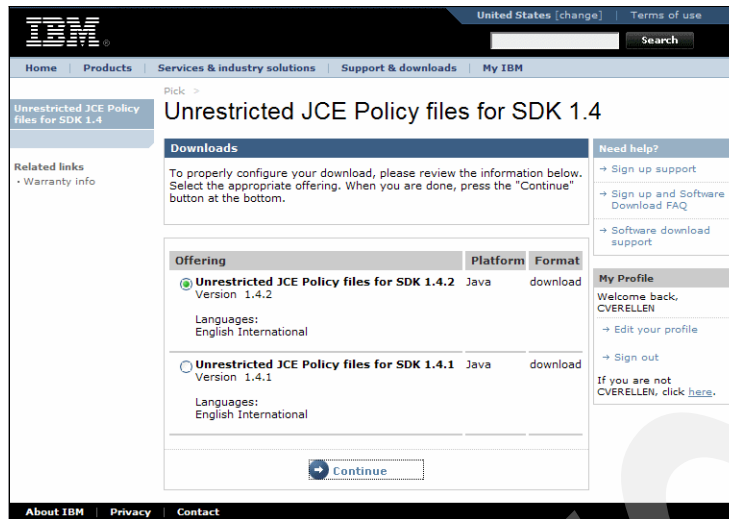

Figure 6-11 SDK version selection
2. Download the .zip file for V1.4.2 (Figure 6-11). The same files are used for V1.4 and V5.